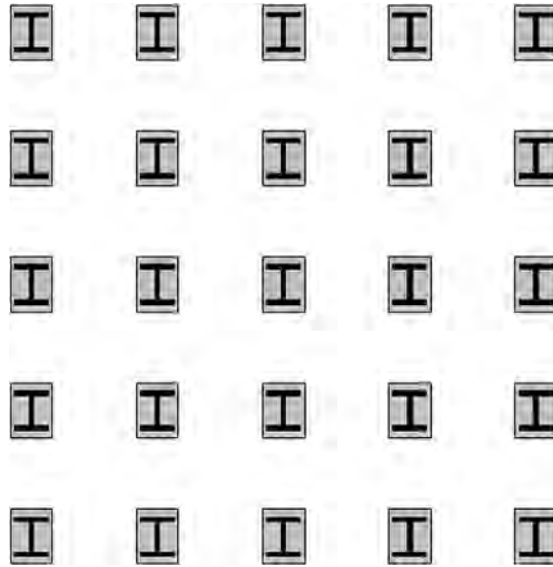

FIGURE 8.12
The idea behind a rectangular array is not fundamentally different from a polar one. We are looking to replicate objects, but this time in rows (horizontal) and columns (vertical). In 3D, you can also do levels, which we do not address here. An example, as shown in Figure 8.12, may be columns of a warehouse. If they are spread out evenly, then this is the perfect tool to create them. You simply draw one I-beam column, make a block out of it, and array it up and across the appropriate area.
The first thing to do is to draw a convincing-looking I-beam. Because we need actual distances, you cannot just randomly draw any object; use known sizing this time around. With one of the columns in Figure 8.12 as a model, create a 20" wide by 26" tall rectangle. Inside of it, put an I-beam drawn with basic linework and a solid hatch fill, and shade the background a light gray (Figure 8.13). Finally, make a block out of it. That sets up the column for an array.
- Step 6.** If using the command line, you just have to follow the prompts for Columns, Rows, and Spacing. Regardless of which you start with (Rows or Columns), AutoCAD asks you for the spacing as needed. Press Enter when done. Your rectangular array should look like Figure 8.12.